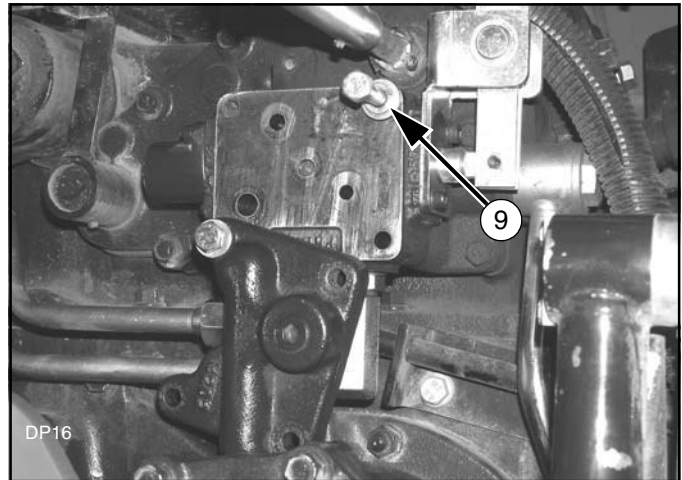
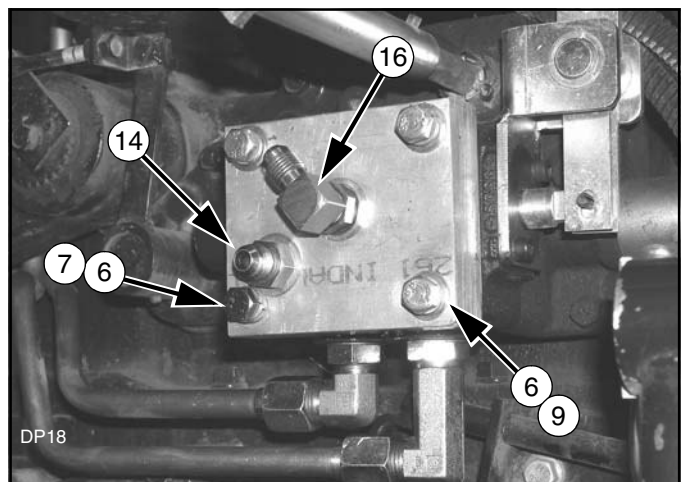

Figure 24. Remove Manifold Block Cover
Figure 26. Hydraulic Block and Fittings Installed
2. Remove three of the four bolts securing the cover to the manifold. See Figure 24.
3. Install cap screw (9) in rear remote valve block to help keep proper alignment. Remove remaining bolt and cover.
4. Insert O-rings (15) into the opening on the back side of hydraulic block (4).
5. Place hydraulic block (4) over rear remote valve block and insert cap screw (7) with lock washer (6) into lower rear hole.
- NOTE:** An extra lock washer (6) maybe needed when tightening cap screw (7).
6. Remove cap screw (9), rotate hydraulic block up and align holes. Secure into position using three cap screws (9) and lock washers (6). See Figure 26. Make sure O-rings are seated properly.
7. Install adapter (14) and elbow (16) into hydraulic block as shown in Figure 26.